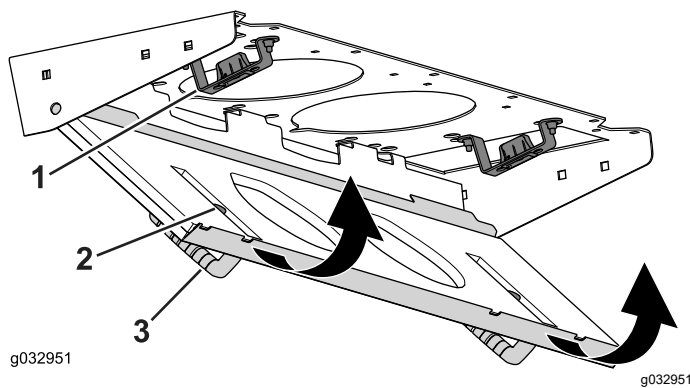

Figure 104
- 4. Rotate the filter screen around the tabs until the latch locks into the latch-mount assembly (Figure 104).